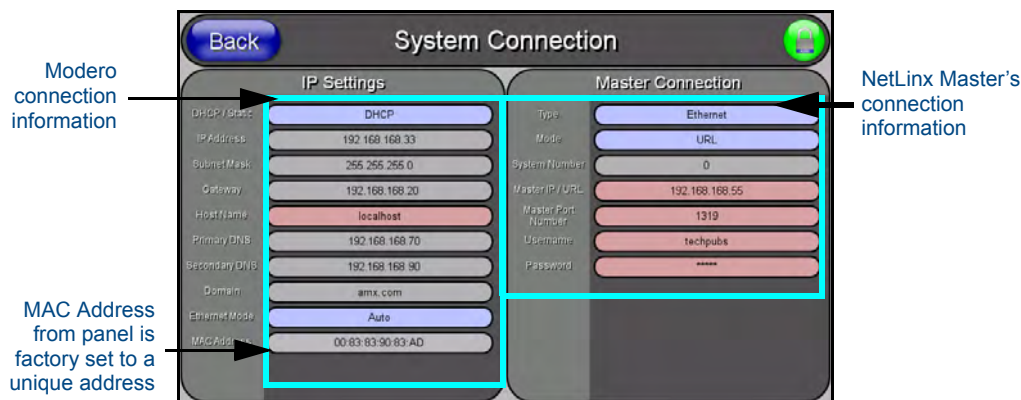

FIG. 31 System Connection page
11. Press the **System Connection** button (located on the Protected Setup page) to open the System Connection page (FIG. 31) and begin configuring the communication settings on the panel to match those of the target Master.